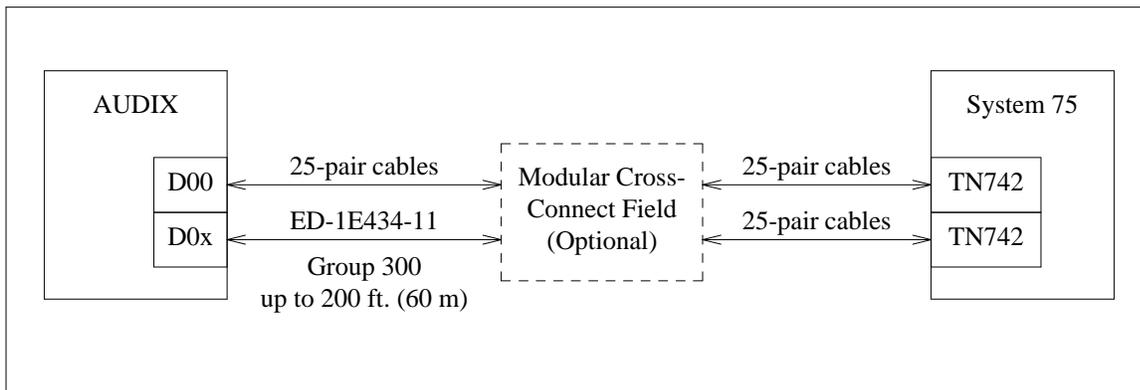

Figure 1: System 75 (or 75 XE) Voice Port Cabling
- Voice links connecting AUDIX voice port (VPT) circuit packs to analog circuit packs administered as a call-distribution group or hunt group on the switch (required for all systems). See figure 1.
Cables for required AUDIX connections are shown in figures 1 through 6. Some descriptions appear in the *Configuration* section. Cable lengths, connector genders, and ordering codes are covered in *AUDIX Reference Manual*, *AUDIX-L Installation Manual*, and *AUDIX Installation Manual*.
Direct Connections: If a switch and AUDIX are co-located, the 25-pair voice-link cables may be attached directly to connectors on the switch port circuit pack if the pinouts are compatible (AUDIX uses the first wire pair for the first analog port, skips two pairs, uses the fourth pair, skips two pairs, and so on). This eliminates the need to use the cross-connect field (see figure 1). However, it also dedicates the entire switch pack to AUDIX, which may reduce reliability or increase ring blocking.